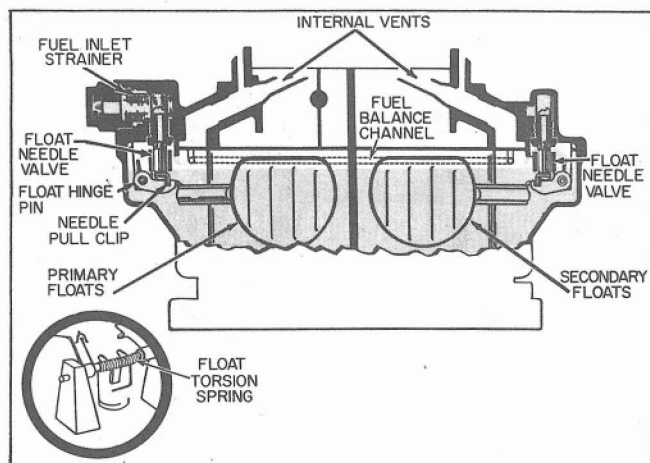
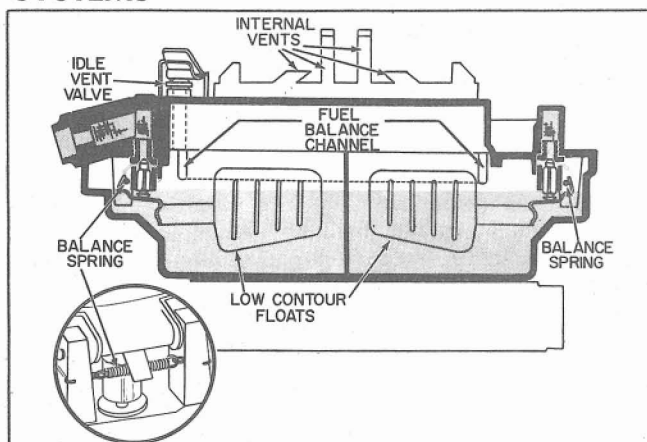
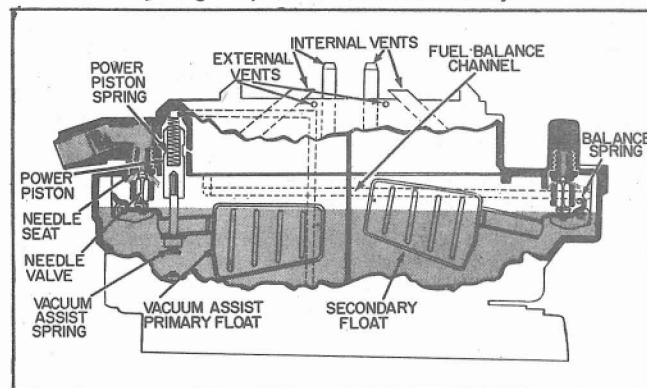

FIGURE 1
FIGURE 2
FIGURE 3
### Float Systems (Fig. 1)(Fig. 2)(Fig. 3)
- A. Figure 1 (see inset) A torsion spring wrapped around the float hinge pin with one end fastened to the float arm and the other end resting on the needle seat. This design is normally used with the high float bowl and the "D" shaped float.
- B. Figure 2. A float balance spring is installed be-
- C. Figure 3. A coiled spring located on the power piston stem exerts pressure on a tang on the float arm, whenever the power piston is in the up position. During heavy acceleration or power system operation, the power piston drops and releases all pressure applied to the tang. This allows maximum float drop under heavy fuel demands and assists in closing the needle under normal operation. With this system, a vacuum assist spring adjustment is necessary.
Both sides of the carburetor are individually and internally vented by the tubes as shown in Figure 3. These vents transmit the air pressure from beneath the air cleaner to the fuel in the float bowl. The amount of fuel metered by the carburetor depends upon the pressure in the bowl.
Some applications use an atmospheric idle vent valve. This vent valve is located on the air horn just above the float bowl (See Fig. 2). It is operated by the tang on the pump lever. When the throttle lever is in the idle position, the idle vent valve is open to allow any fuel vapor pressure built up in the float bowl during periods of hot engine idle and hot soak, to escape to the outside. The vent valve closes when the throttle valves are opened, returning the carburetor to internal balance by venting the fuel bowl through the internal vents inside the air horn.